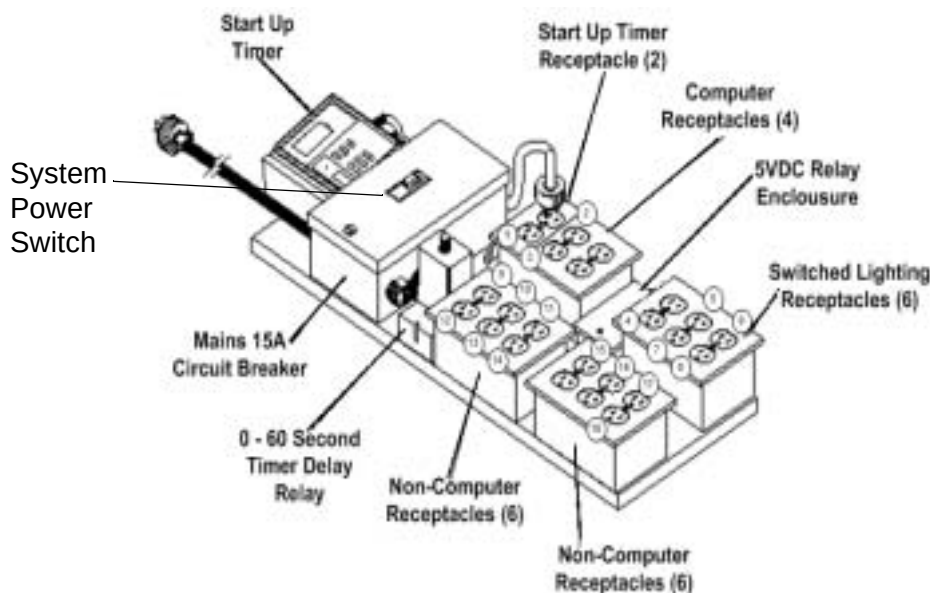

Figure 7. Power Panel
2. Toggle the switch on the power Mains 15A Circuit Breaker. Figure 7 shows the location of the main power switch on the Power Panel.
5. Toggle the power switch on the Mains 15A circuit breaker as shown in Figure 7.